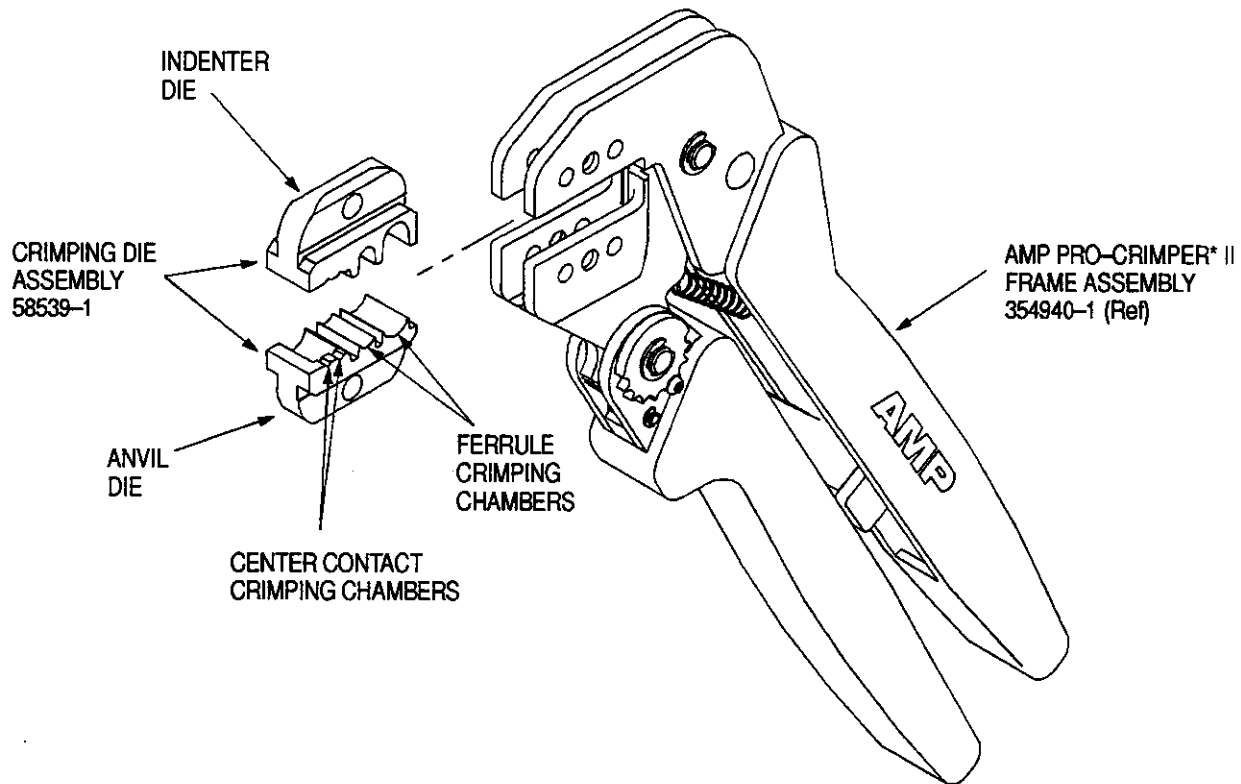

Figure 1
chambers. The two larger crimping chambers crimp the ferrule of the connector onto the coaxial cable, and the two smaller crimping chambers crimp the center contact onto the center conductor of the coaxial cable. Each die is held in the tool jaws by a single screw. See Figure 1.
3. DIE INSTALLATION (Figure 1)